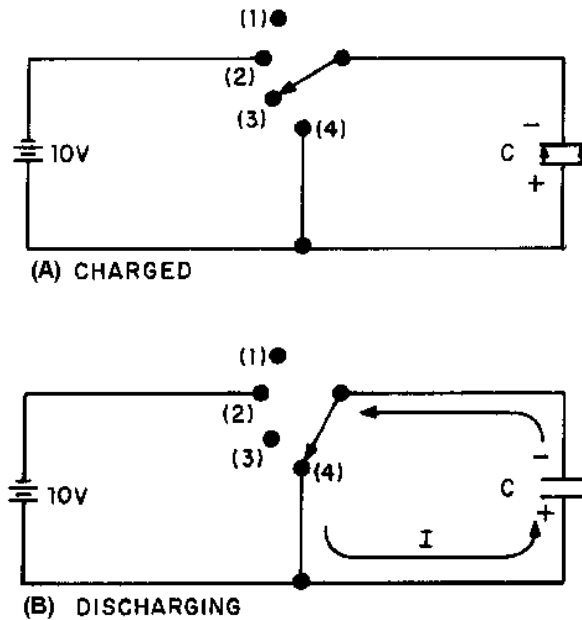

Figure 3-8.—Discharging a capacitor.
If the switch is now opened as shown in figure 3-8(A), the electrons on the upper plate are isolated. The electrons on the top plate are attracted to the charged bottom plate. Because the dielectric is an insulator, the electrons can not cross the dielectric to the bottom plate. The charges on both plates will be effectively trapped by the electrostatic field and the capacitor will remain charged indefinitely. You should note at this point that the insulating dielectric material in a practical capacitor is not perfect and small leakage current will flow through the dielectric. This current will eventually dissipate the charge. However, a high quality capacitor may hold its charge for a month or more.
To DISCHARGE a capacitor, the charges on the two plates must be neutralized. This is accomplished by providing a conducting path between the two plates as shown in figure 3-8(B). With the switch in position (4) the excess electrons on the negative plate can flow to the positive plate and neutralize its charge. When the capacitor is discharged, the distorted orbits of the electrons in the dielectric return to their normal positions and the stored energy is returned to the circuit. It is important for you to note that a capacitor does not consume power. The energy the capacitor draws from the source is recovered when the capacitor is discharged.